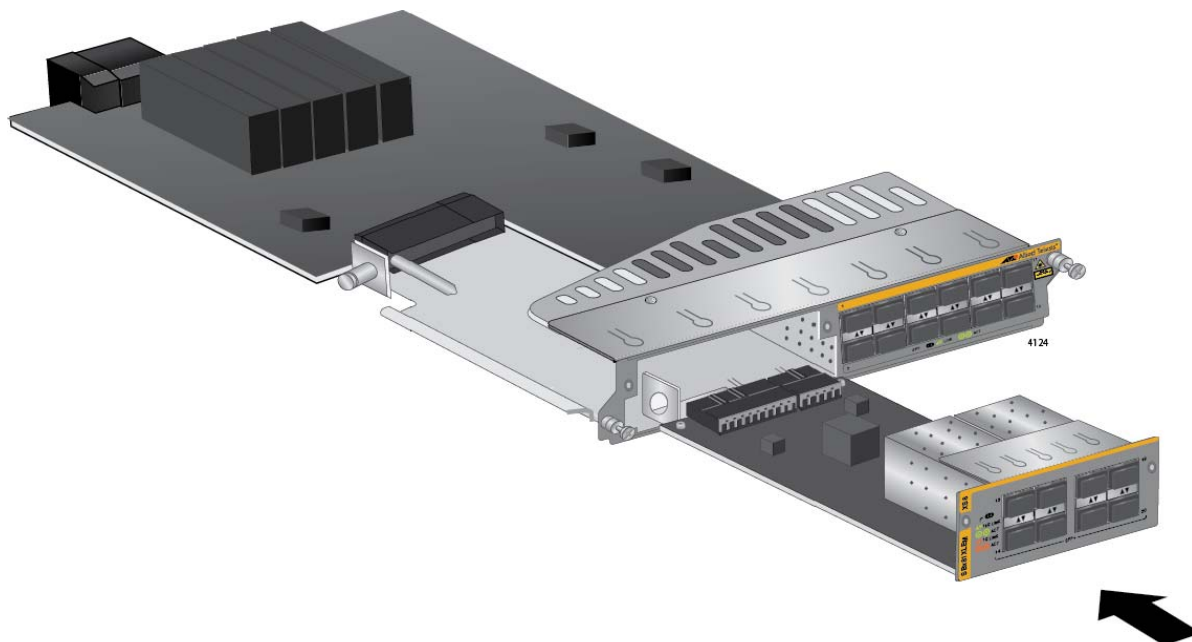

Figure 83. Sliding the Expansion Module into the AT-SBx81XLEM Line Card
- Carefully align the expansion module in the slot, as shown in Figure 83, and slide it into the line card.